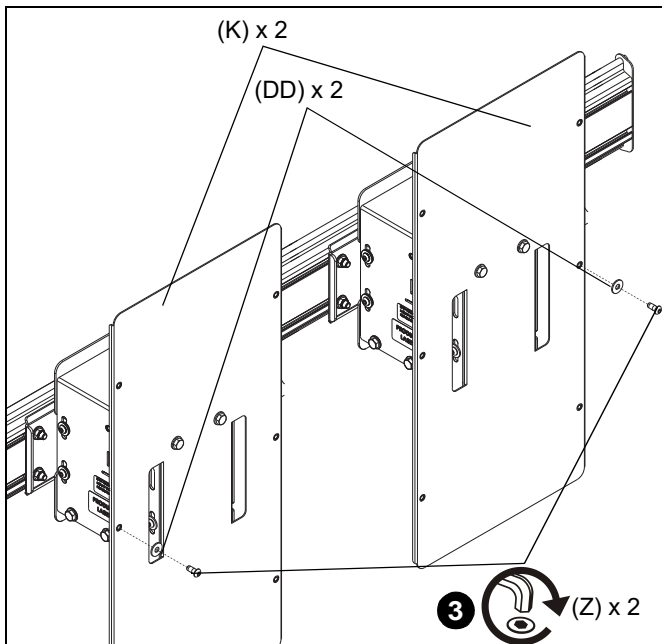

Figure 10
3. Loosely install two 1/4-20 x 5/8" button head cap screws (Z) and two 1/4" washers (DD) into two outside center holes on center wind shields (K). (See Figure 10)